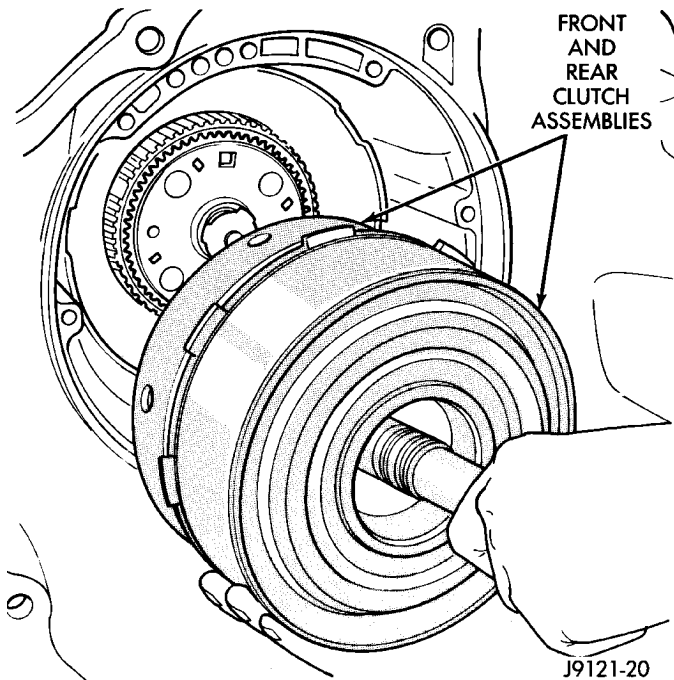

Fig. 138 Front/Rear Clutch Assemblies
(8) Align discs in rear clutch. Then install and engage assembly in front planetary and driving shell (Fig. 138). Turn clutch retainers back and forth until both clutches are seated.